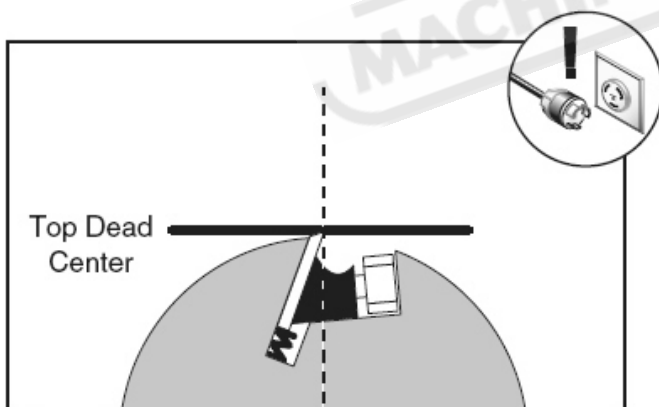

Figure 8. Cutterhead knife at top-dead-center
3. Open the motor access panel and rotate the cutterhead pulley until one of the knives (or carbide inserts) is at top-dead-center (TDC) as illustrated in **Figure 8**.